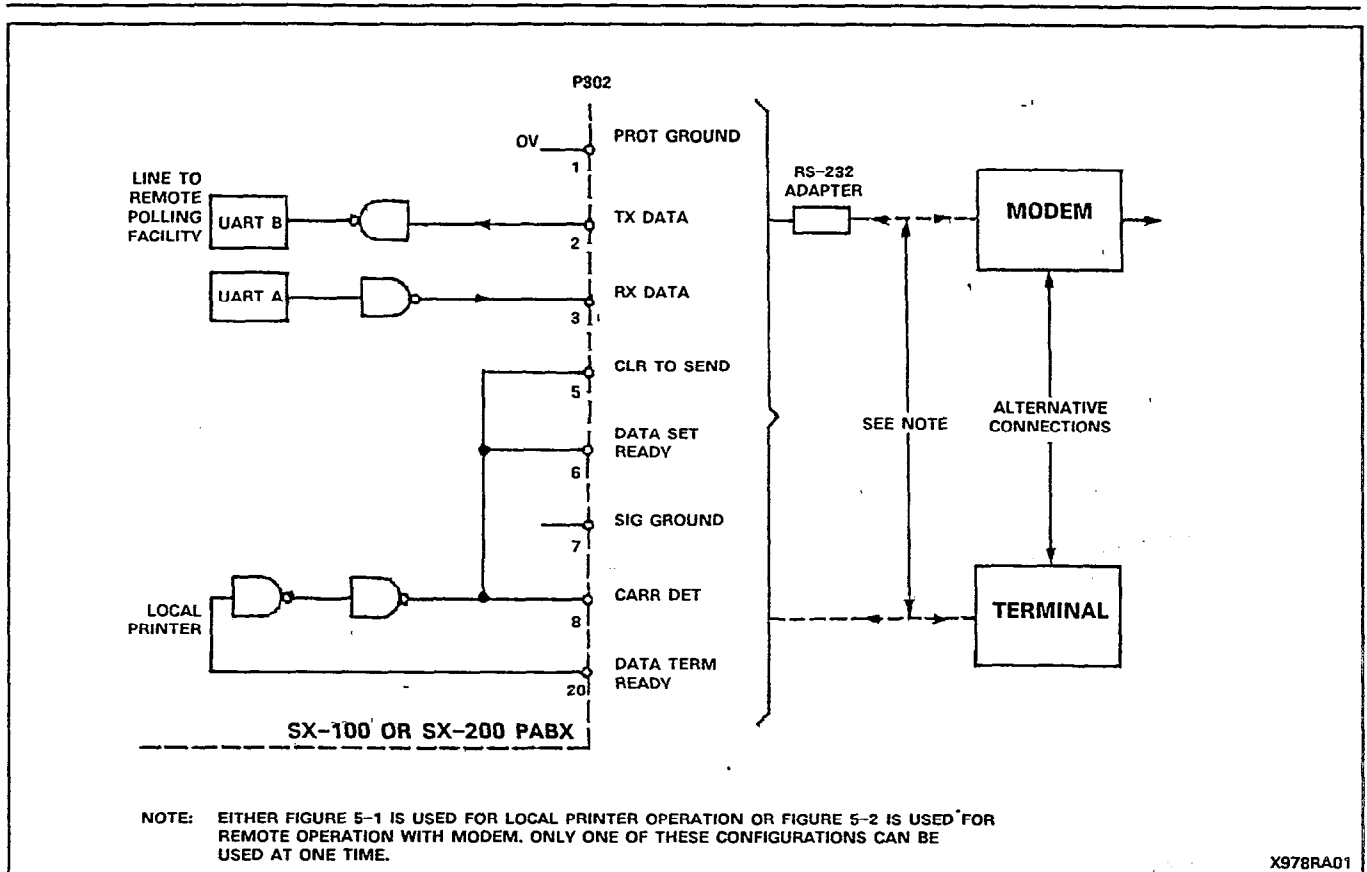

Figure 4-1 Alternative Configurations - PABX Data Port
4.01 Figure 4-1 shows the external connections to the PABX data port connector J302. The port may be connected via an RS-232 Adapter, either to an external modem for the remote polling facility or to a local terminal (printer). Both types of connections cannot be simultaneously employed.
3. Determination of the required output configuration (see Figure 4-1).